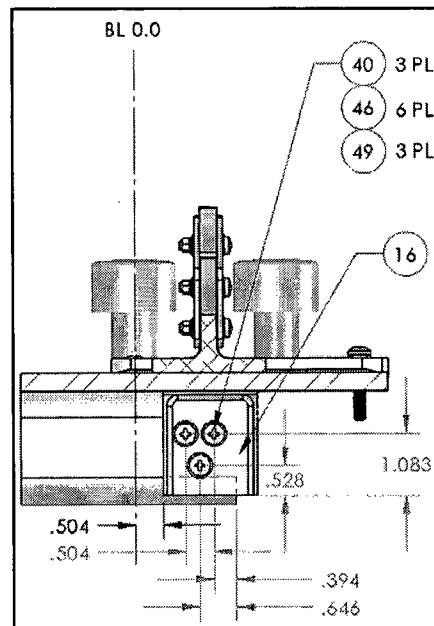

Figure 4.1: Bracket Installation
- 4.1 Layout and mark hole locations on Bracket (F/N 16) as shown in Figure 4.1. Drill holes.
Parts List for Figure 4.1: